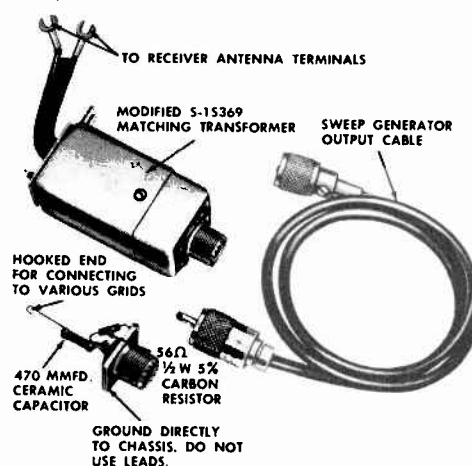
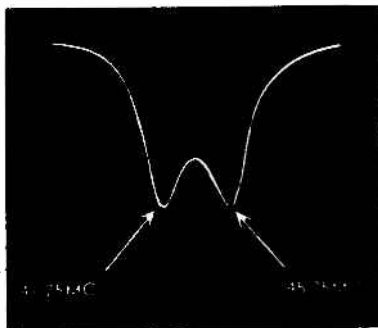

Fig. 15 IF-RF Alignment Fixtures
Fig. 17 4th IF Response.
3. Feed the output from the sweep generator through the special termination unit shown in Fig. 15 to point "C" (Pin 1 of 6CB6, 3rd IF). Adjust the generator until a pattern similar to Fig. 17 is obtained.
4. Set the Marker Generator to 45.75 Mc and alternately adjust the top and bottom slugs of the 4th IF transformer for maximum gain with the 41.25 Mc and 45.75 Mc markers positioned as shown in fig. 17